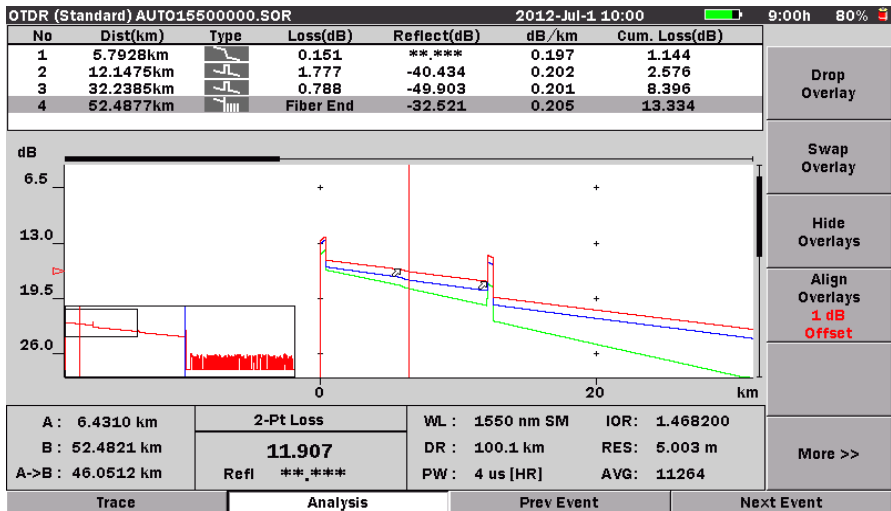

Figure 4-34: Align Overlays 1 dB Offset
- **Align Overlay 1 dB Offset** – When **Align Overlay** is toggled to **1 dB Offset**, the traces are aligned as in Align Overlays On, but each overlay is offset from the common intersection point by 1 dB. See Figure 4-34, below.